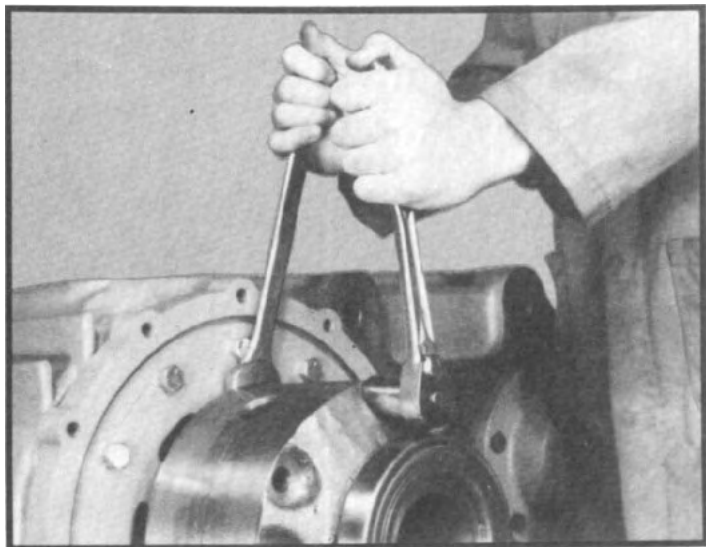

Fig. 47
2.12 Remove bolts from differential case, (See fig. 47), split the case and remove rear of case. (See fig. 48.) As the rear of the case is removed be sure to also remove the spider and pinion gear assembly with the rear of case (Do not let spider and pinion gear assembly drop from case). Remove spider and pinion gear assembly, differential side gear and thrust washer from case half. The differential spider, thrust washers and pinion gears do not have to be disassembled.